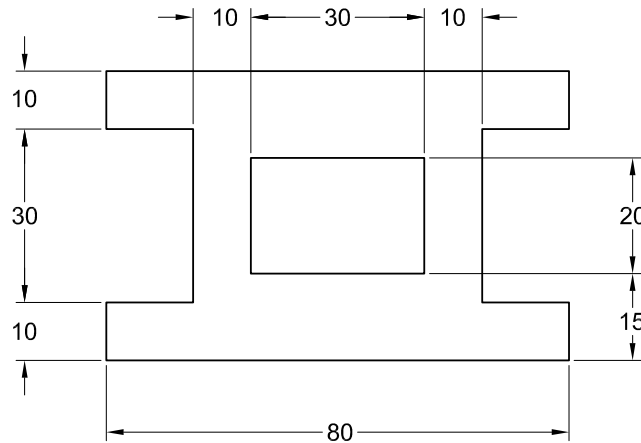
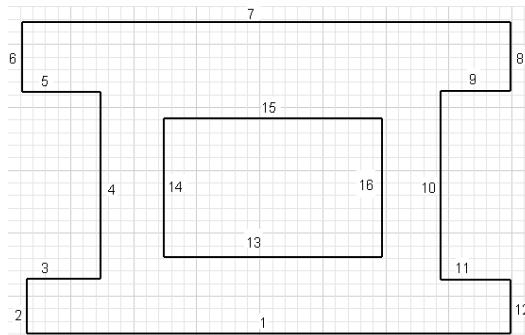

Figure 3-48 Dimensioned sketch for Tutorial 1
Figure 3-49 Initial sketch drawn using the sketching tools
In this tutorial, you will draw the sketch shown in Figure 3-48. This sketch is the same as the one drawn in Tutorial 2 of Chapter 2. After drawing the sketch, you will add the required constraints and then dimension it.
- Draw the initial sketch by using the **Line** and **Two point rectangle** tools, refer to Figure 3-49.
1. Using the **Line** and **Two point rectangle** tools, draw the required sketch similar to the one shown in Figure 3-48. You do not need to draw the sketch to the exact length. Use the temporary tracking option for drawing the sketch. For your reference, all lines in the sketch are numbered, see Figure 3-49.
It is evident from Figure 3-49 that some of the lines need to be of the same length. For example, lines 1 and 7, lines 2 and 6, lines 8 and 12, and so on. To make the lines of the same length, you can use two options. In the first option, you can assign dimensions to all these lines. However, this will increase the number of dimensions in the sketch. In the second option, you can apply constraints that will force the lines to maintain an equal length. You can apply the Equal constraint to all the lines having the same length. This constraint will relate the length of one of the lines with respect to the other. Now, if you dimension any one of the related lines, all other lines related to it will be forced to acquire the same dimension value. The Equal constraint is applied in pairs.
1. Choose the **Dimension** tool from the **Constrain** panel of the **Sketch** tab. Alternatively, right-click anywhere in the graphics window and then choose **General Dimension** from the Marking menu displayed. Next, select line 1, refer to Figure 3-49.